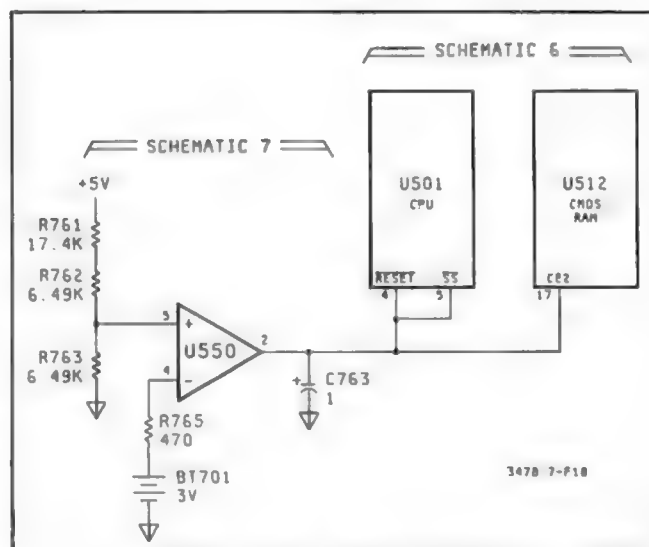

Figure 7-F-18. Power-On Circuitry
a. **Power-On Circuitry.** Refer to Figure 7-F-18, or Schematic 3 and 4. The Power-On Circuitry resets the CPU when the 3478A is turned on and when +5V power supply is low. The step by step operation is as follows: